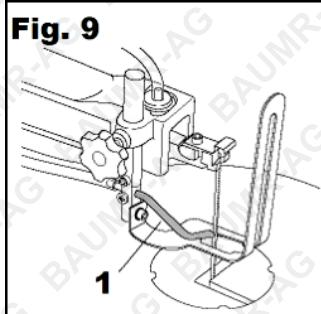

Fig. 9
For best results, the dust blower tube (1) should be adjusted to direct air at both the blade and the work-piece (Fig. 9).